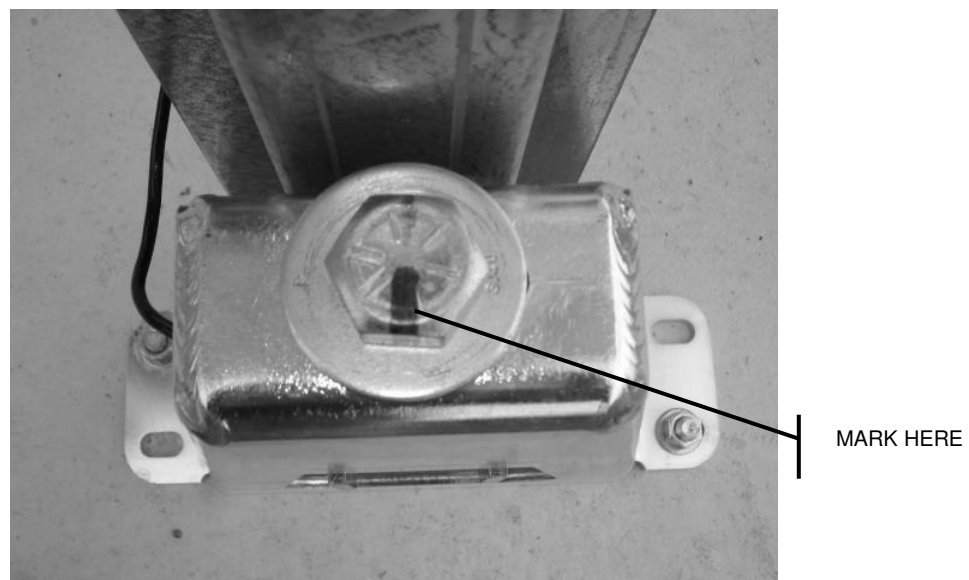

FIGURE 8
**Step 14:** Tighten the top bolts on the 'A' frames to the point where they just start to snug up. Mark the top of them with a marker. See Figure 8.